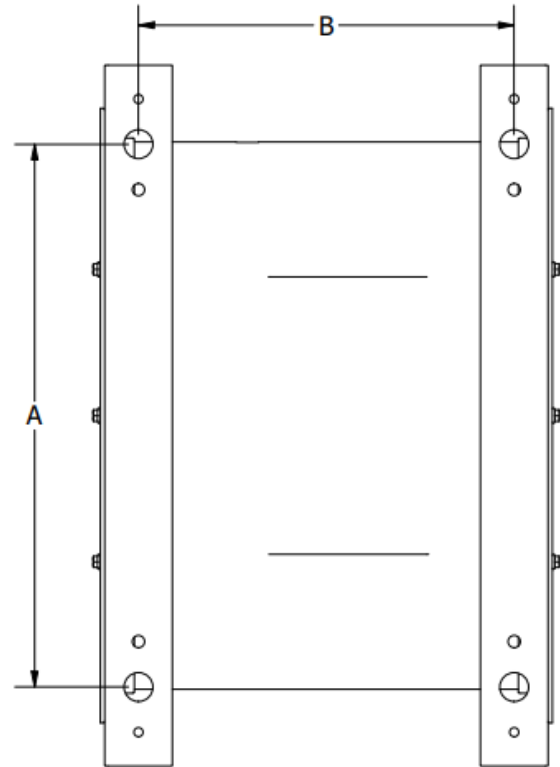

Figure 1 - Axial Fan Bracket Dimensions by Fan Size
- Locate the mounting points of your equipment on the ceiling. If you are using Axial Fan Brackets, reference Figure 1 below to find the distance between hanging holes.